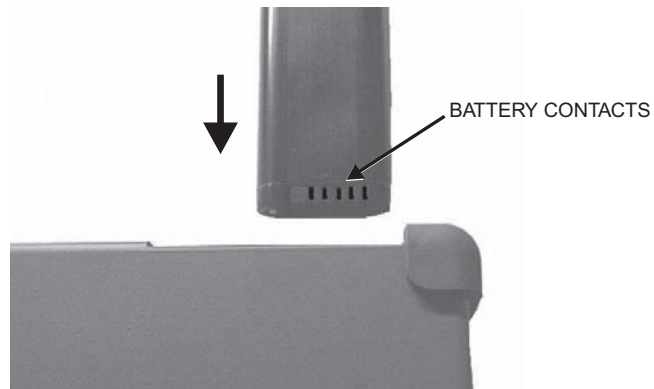

Figure 10. *Battery Orientation*
5. Replacement is the opposite of removal. Note the orientation of the battery contacts, and be sure to insert the new battery with the contacts facing the rear of the unit (Figure 10).